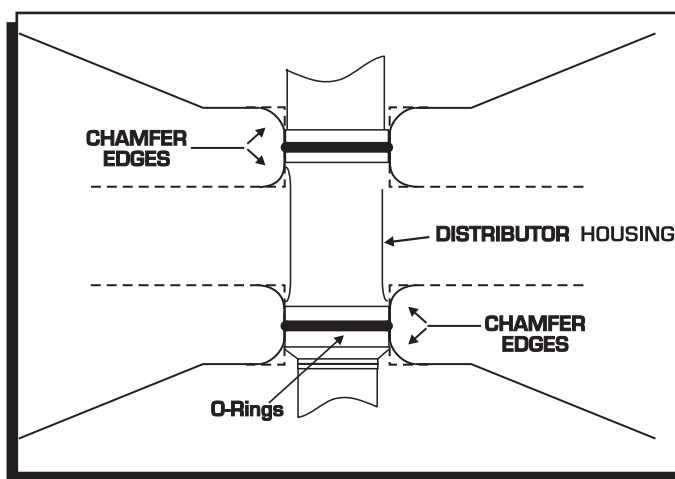

Figure 9 Modified Block for use with O-Rings.
7. Install the gasket and apply a liberal amount of the supplied lubricant to the distributor gear. (The supplied O-rings can **only** be used if the block has been modified as shown in Figure 9.)